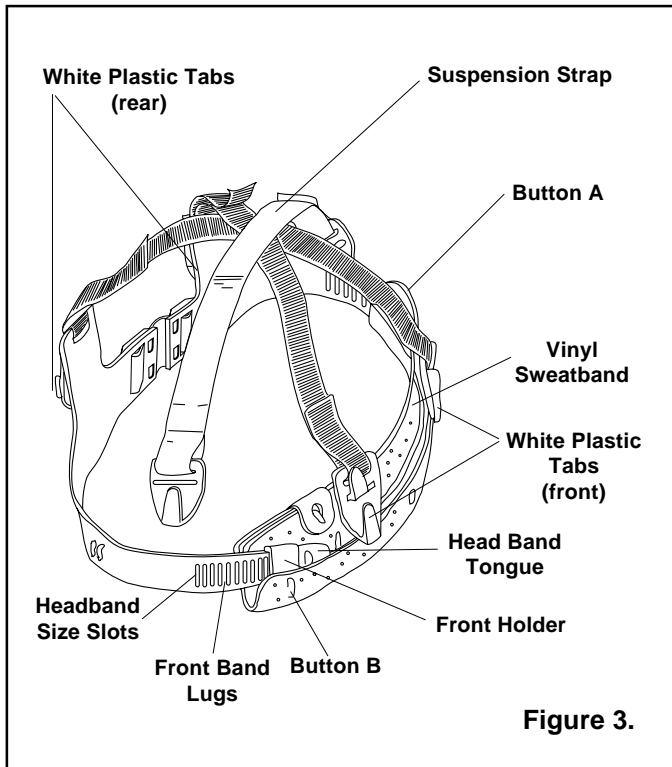

Figure 3.
6.2 Helmet Suspension Adjustment and Replacement, Figure 3
6.2.3 Unfasten the vinyl sweatband from the two lower, outside buttons (A and B in Figure 3).